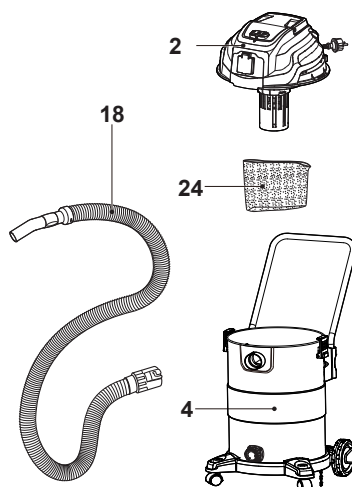

Fig. 8 Wet vacuuming
- with foam sleeve (24) for wet vacuuming (Fig. 8).